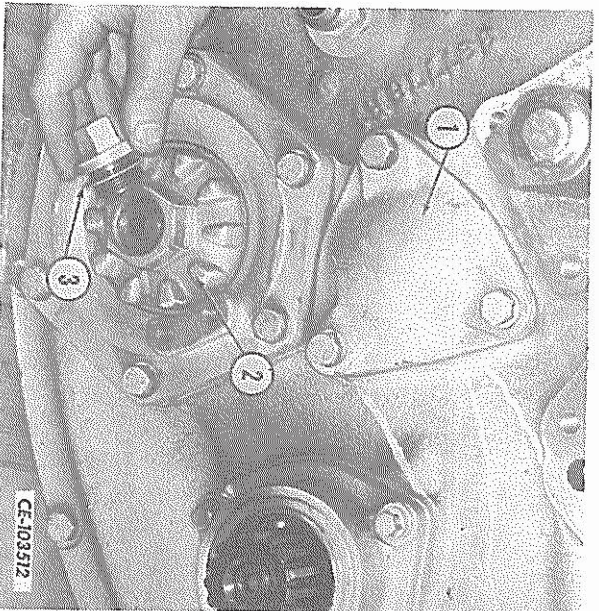

FIG. 88 — Installing the Bearing Retainer Plug
60. Place the sealing ring on the spline shaft bearing cap and secure the cap (1, Fig. 88) to the front cover.
61. Place the sealing ring on the pinion shaft front bearing retainer (2, Fig. 88) against the first shoulder from the end of the retainer. Do not place the sealing ring against the second shoulder where the threads begin. Then screw the retainer into the bearing cage until it stops. Use a socket and torque wrench and tighten the retainer to 420-461 N.m (310-340 lbf ft) torque.
62. Install the retainer plug with gasket (3, Fig. 88) on the retainer.